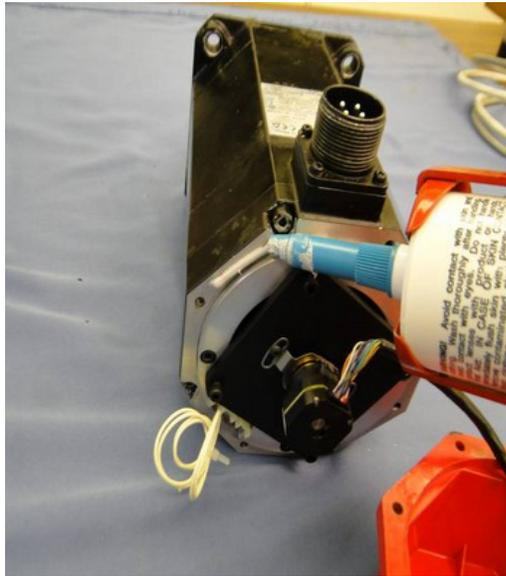

Figure 6.4.6
17. If there is not a rubber O-ring or gasket between the motor and the end cap, remove the end cap again. Apply a bead of non-corrosive RTV sealant (such as Dow Corning 3165) onto the end cap mounting surface as shown below in Figure 6.4.6. Reinstall the end cap. This step is not necessary for any motor bought from Centroid, but may be needed when performing retrofits to older systems.